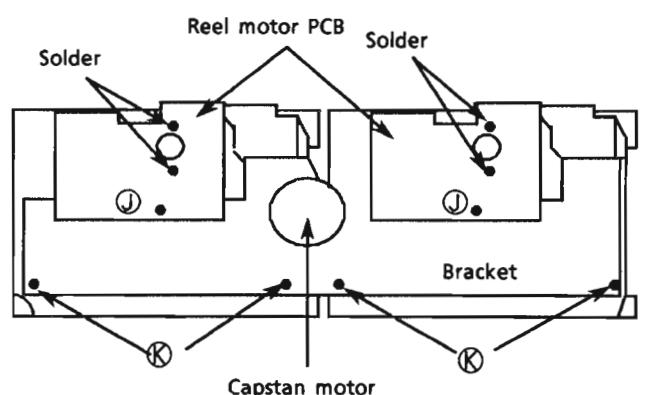

Fig. 13
3. Remove the 4 screws ③ fixing the bracket (Fig. 13).
3. Remove the screws ⑩ and the bracket (Fig. 13).